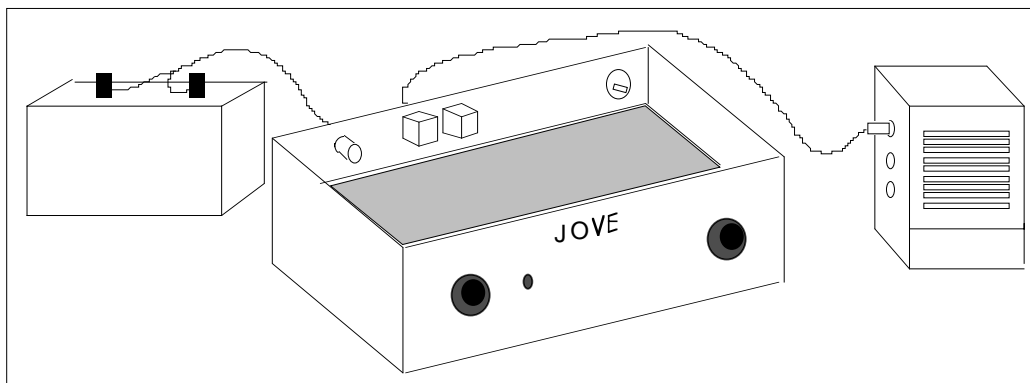

Figure 17. Test set-up: radio (with the cover off)
2. ☐ Turn the JOVE receiver power switch OFF. Connect either headphones or an amplified speaker (Radio Shack 277-1008C or equivalent) to the receiver audio output (J3 or J4). These jacks accept 3.5 mm (1/8 inch) monaural or stereo plugs. Connect the JOVE receiver to the 12 volt power source as shown in Figure 17.